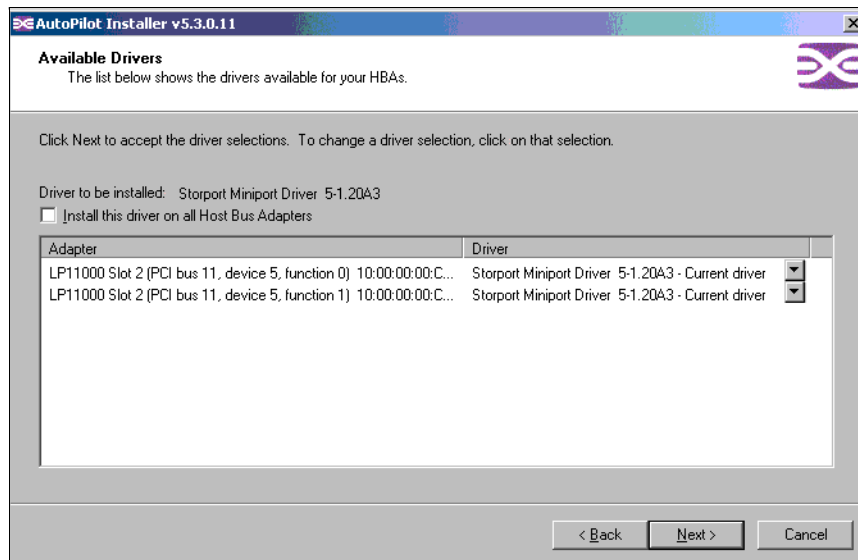

Figure 24-33 Emulex - Available Drivers
2. Click **Next** to display the available HBA drivers (Figure 24-33).